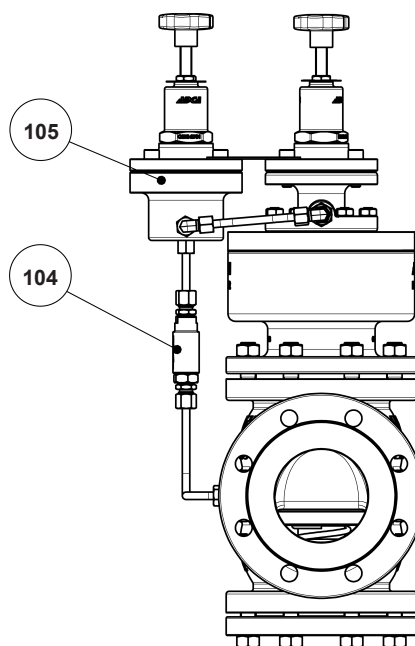

Fig. 8
**PRS47/2 pressure reducing and sustaining valve (Fig. 8)**